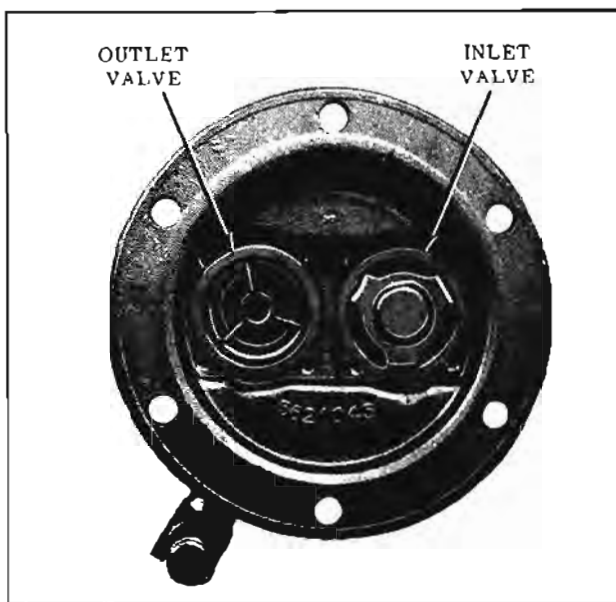

Fig. 8-183 Fuel Pump Valves
4. Place valve gaskets in recesses provided in fuel cover. Place valve assemblies on top of gaskets. Inlet valve must have spring cage facing out of cover, and the outlet valve must have the spring cage facing into cover. Stake valves in place. (Fig. 8-183)